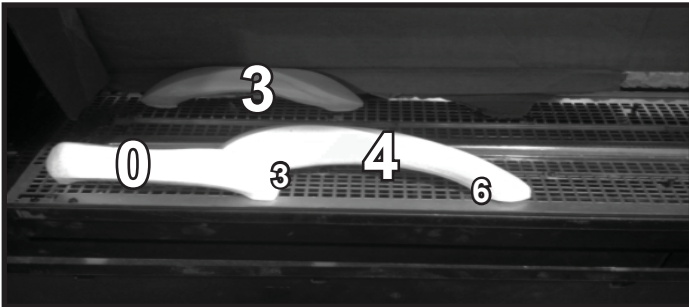

Figure 5. (SRV2310-754)
6. **(SRV2310-754):** Install Log #4 so that the large end of the log contacts locating screw #3 and #6. See Figure 5.